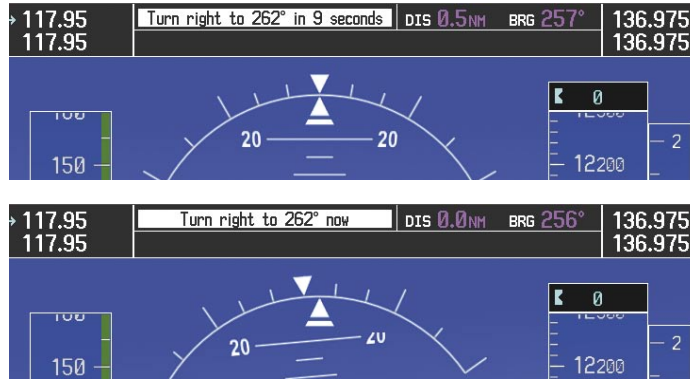

Figure 5-103 Turn to Intercept V244
- 8) At SLN, Victor Airway 244 (V244) is intercepted. Turn prompts are displayed in the PFD Navigation Status Box as seen in Figure 5-103.